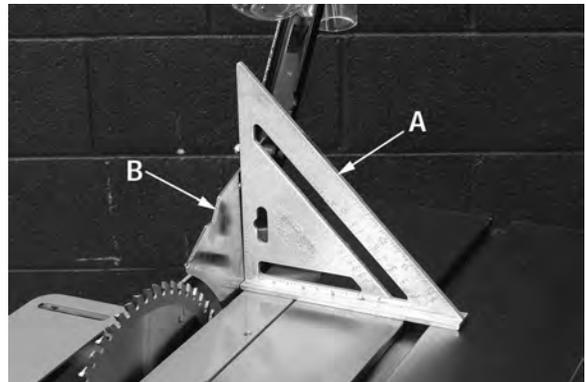

FIGURE 20
3. Make sure the blade is set at a perfect 90 degree, and is raised to its highest point. Raise blade guard out of the way, then place a square (A) Fig.20 on the table and up against the riving knife (B) as shown. If the riving knife is not at a 90 degree angle to the table, an adjustment can be made.